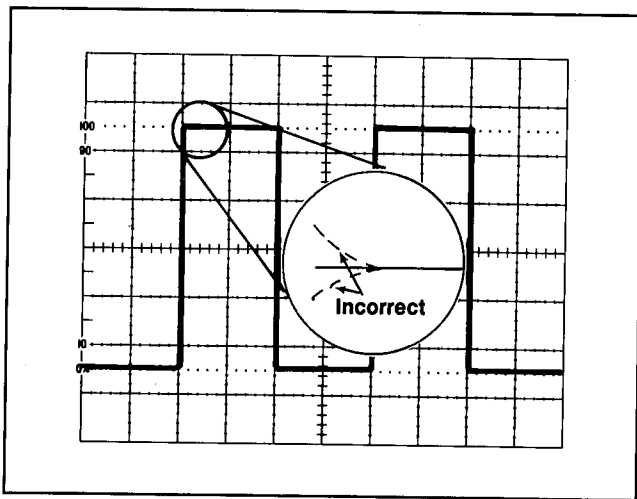

Fig. 5-4. Correct and incorrect examples of high-frequency gain adjustment.
- c. ADJUST—R370 (High-Frequency Gain) and C220 (Cross-Over Phase) for optimum flatness on the top of the waveform. Refer to Figs. 5-4 and 5-5.